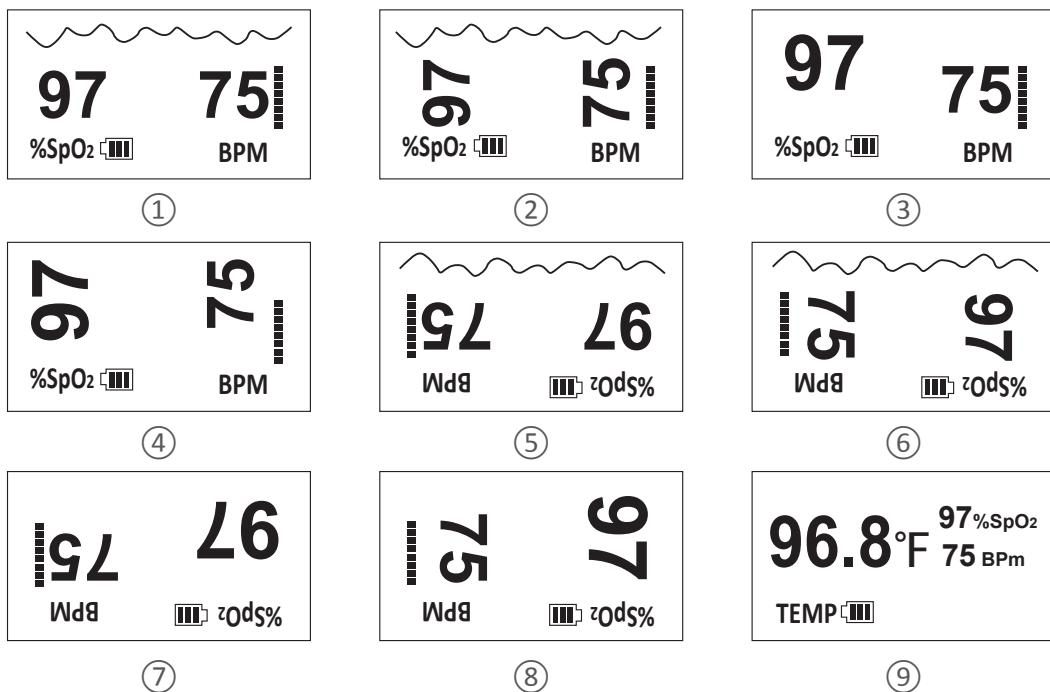

Figure 8
2) There are nine display modes for your choice, See Figure 8. Figure 8.①-Figure 8.⑧ display SpO₂ and pulse rate, Figure 8. ⑨ display SpO₂, pulse rate and temperature.